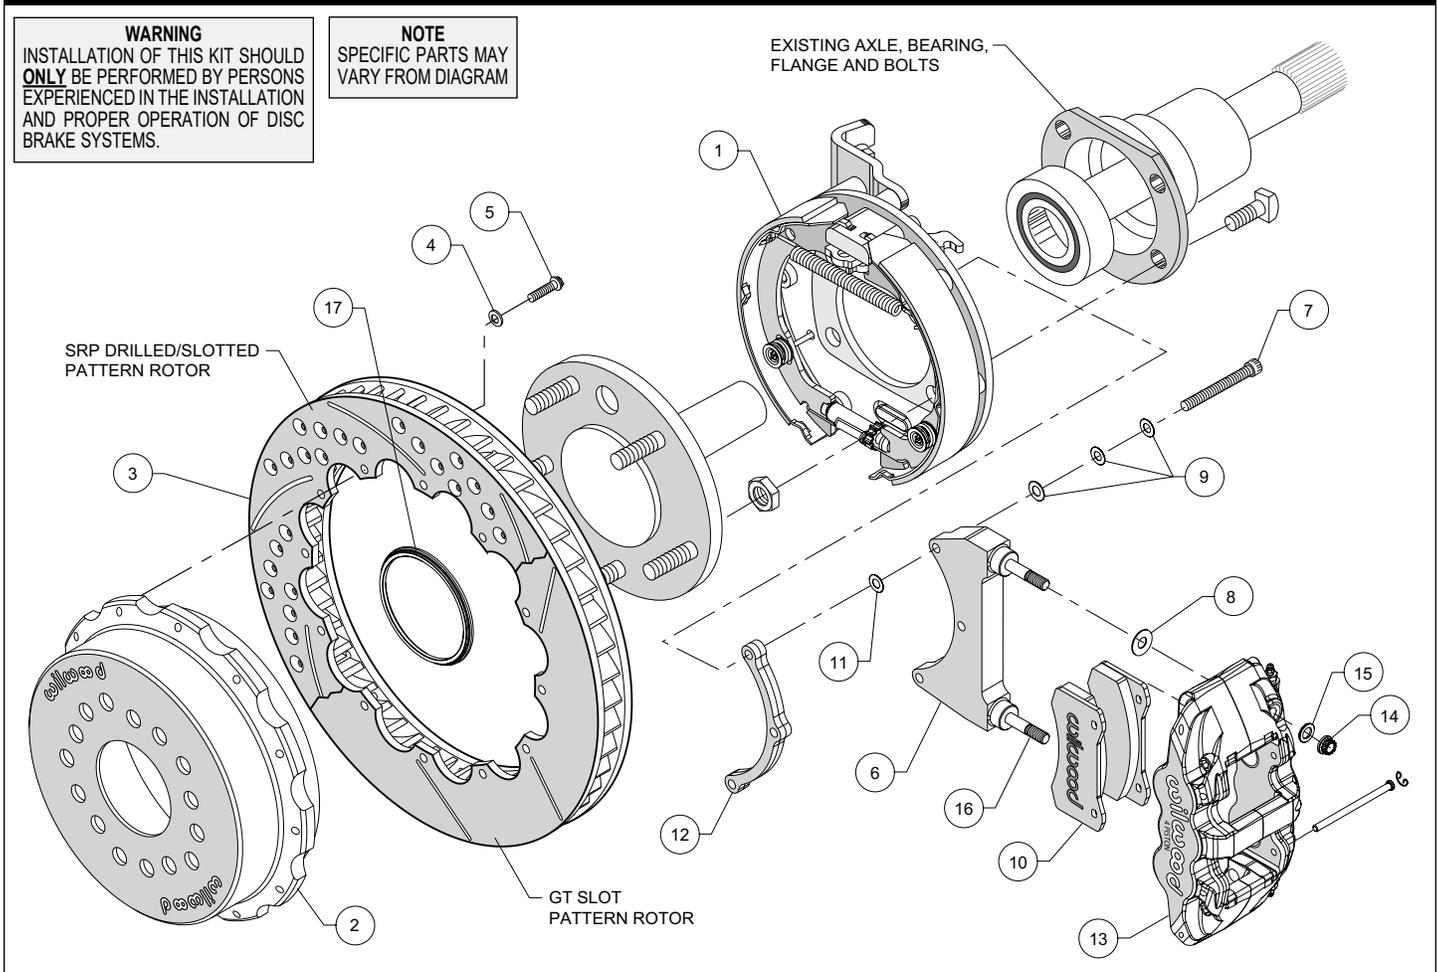

Figure 1. Typical Installation Configuration
- Slide the rotor registration adapter (17) onto the axle register on the axle flange with the smaller O.D. facing toward the rotor/hat (2). Align the correct hole pattern in the hat with the stud pattern on the axle flange. **NOTE: Some OEM and aftermarket axles come with stud sizes larger than 0.50" diameter.** Verify stud size and have a qualified machine shop drill the hats to the correct size, if necessary. Slide the hat/rotor assembly (2 and 3) over the wheel studs covering the bracket kit assembly (1) and against the axle flange face. Check to be sure the hat seats squarely against the hub. Install three lug nuts (finger tighten) to keep the rotor/hat assembly in place while continuing with the installation.
- NOTE: Please reference the caution statement at the beginning of the assembly instructions.** The caliper mounting bracket assembly (6) should be installed first with clean, dry threads on the mounting bolts (7). Install the bracket from the rear side of the bracket kit assembly (1) by sliding bolt (7) through three flat washers (9), bracket (6), shim washer (11) and finally through the spacer (12), see Figure 1. **NOTE: End of bolt should not exceed inside face of insert. The bracket must tighten squarely against the back side of the bracket kit assembly (1).** Inspect for interference from casting irregularities, machining ridges, burrs, etc. Use one thin shim (11) between the bracket (6) and spacer (12) during initial trial fitting.
- Lubricate caliper mounting studs and nuts with lightweight oil. Install one shim (8) over each pre-installed stud (16) on the radial mount bracket (6). Slide the caliper (13) in place over the studs and rotor, then install the washer (15) and lock nut (14) to hold the caliper in place. The caliper bleed screws should be pointing up. Snug the lock nuts (14) and check that the rotor (3) is centered in the caliper (13). Add or subtract .015" shims (11) as necessary between the caliper mounting bracket (6) and the spacer (12) to center the caliper (13).
- Remove the two pad retaining pins from the caliper (13) by carefully popping out the pin retaining clips and sliding out the pins. Insert the brake pads (10) into the caliper from the bottom, Figure 1. With the friction material facing the rotor, secure the brake pads in place with the pad retaining pins and clips. Reinstall the caliper onto the caliper mounting bracket and temporarily tighten the lock nuts. Check that the top of the brake pad is flush with the outside diameter of the rotor. If not, adjust by adding or subtracting shims (8) between the caliper and the bracket.
- Adjust the parking brake shoes outward (using a drum shoe adjustment tool available at your local auto parts store) while spinning the hat (2) until a slight drag is felt against the hat/drum. Remove the lug nuts that were holding the hat/rotor in place. Install the wheel and lug nuts. Check to see that the wheel rotates freely without interference.
- Once all clearances have been checked, remove the wheel, caliper, hat/rotor from the bracket kit assembly (1). Secure the caliper mounting bracket (6) to the bracket kit assembly (1) using red *Loctite*[®] 271. Torque bolts (7) to 180 **in-lb**. Reinstall the hat/rotor assembly and again use lug nuts to hold it in place. Reinstall the caliper, torque the caliper nuts (14) to 47 ft-lb.
- NOTE: Clevis and cable kits which attach to the parking brake assembly are not included in the Wilwood parking brake kit.** Wilwood offers a generic style parking brake cable kit, P/N 330-9371 for this application which can be ordered separately from your local Wilwood dealer or by calling Wilwood customer service at (805) 388-1188.